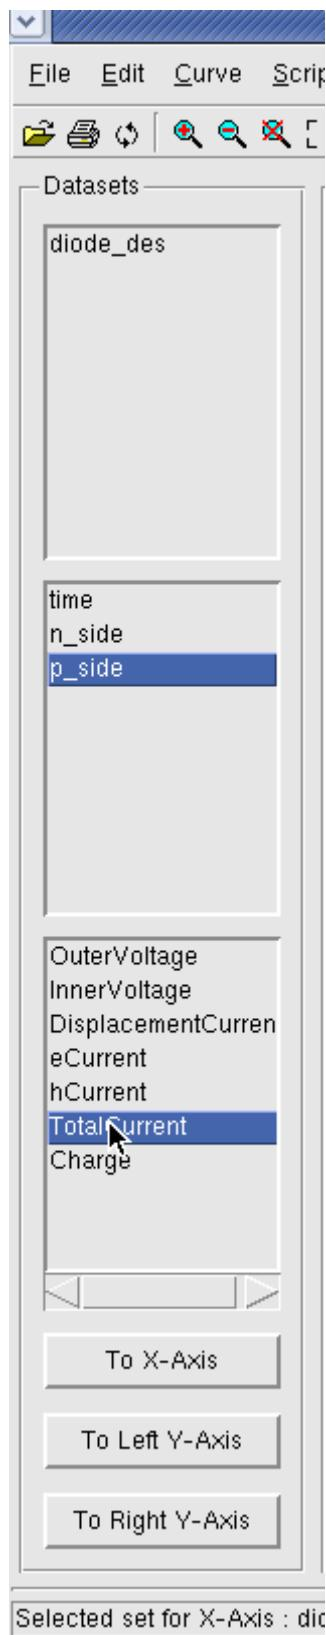
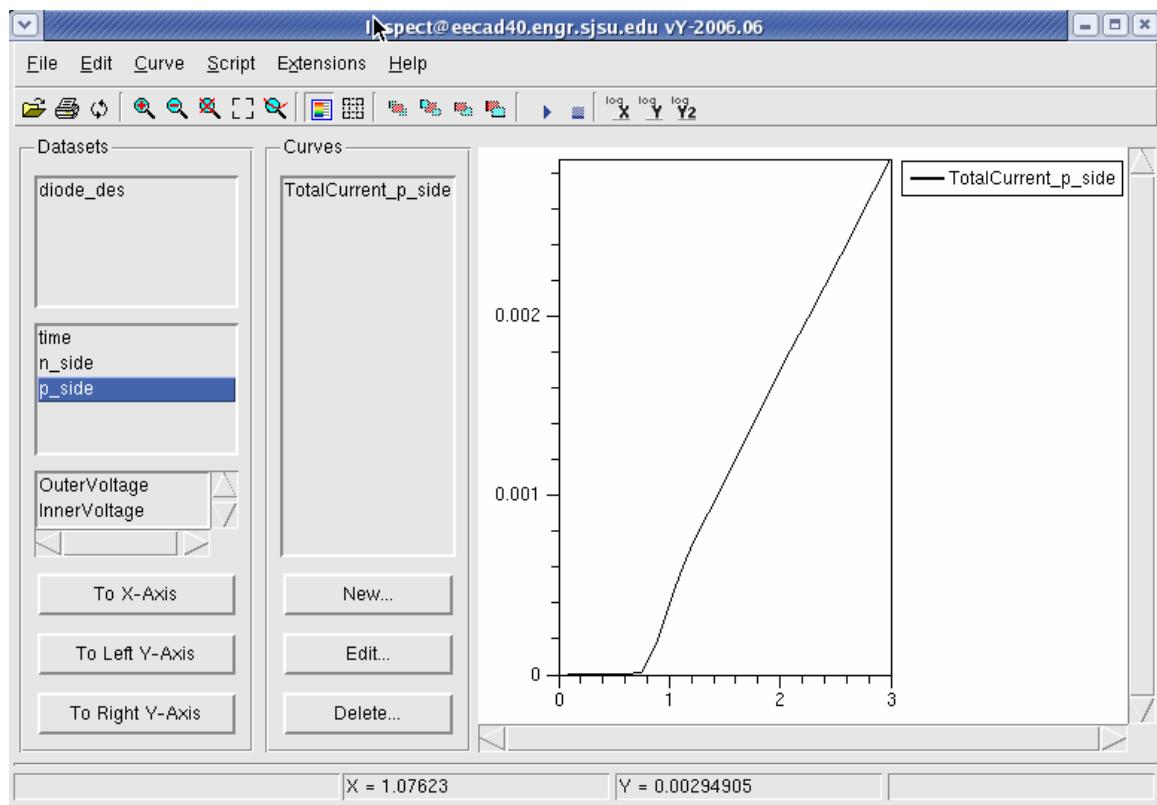
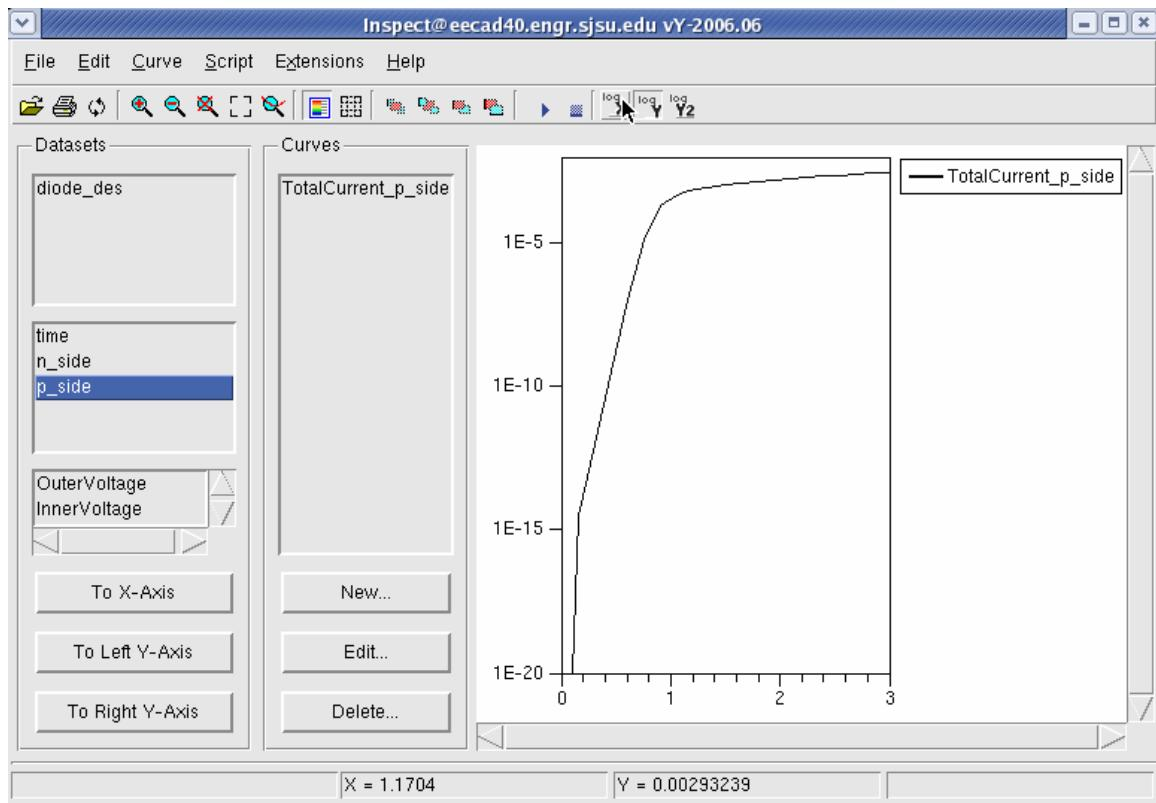

Figure 111: Assigning y-axis.
Figure 112: Electrical results of a forward biased diode.
Figure 113: Forward bias diode Log scale.
4. Click on n\_side TotalCurrewnt and assign to left y-axis (Figure 111). You should see a forward biased diode's characteristics (Figure 112). Try plotting the y axis in log scale (Figure 113).